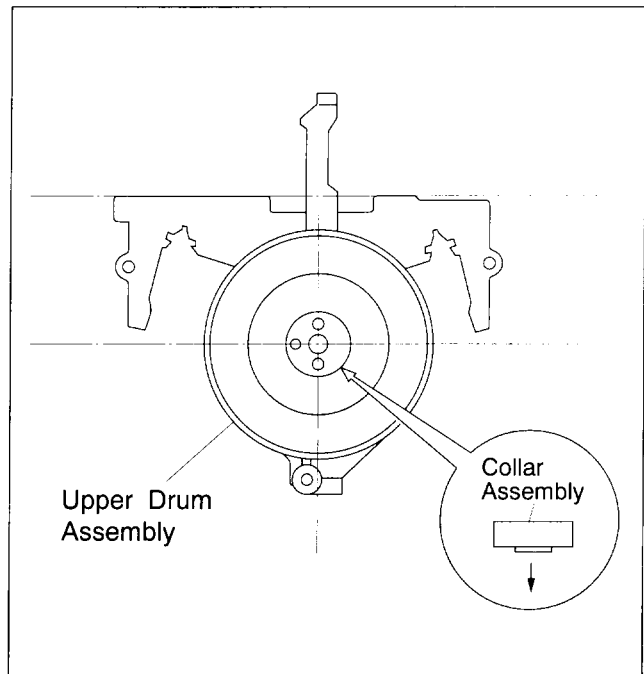

Fig.2-5-27
(3) Note the top and bottom of the collar assembly and determine the position as indicated in Fig.2-5-27.
- (4) While pressing the collar assembly evenly from above with your fingertips, secure the hexagonal screw.